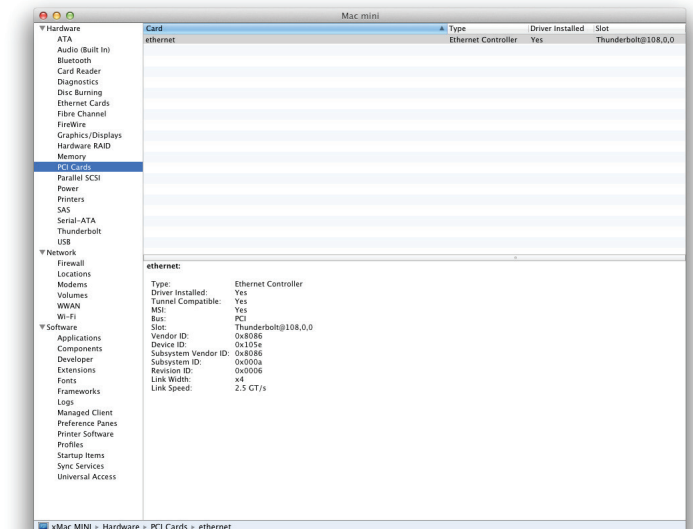

Figure 20
2. Click PCI Cards under the Hardware header in the left column (Figure 20).
3. At the top of the right column, installed cards are listed. By selecting a card at the top, detailed information is listed. You should see “Yes” next to Driver Installed and Tunnel Compatible, otherwise the card or driver may not be Thunderbolt compatible (Figure 20).